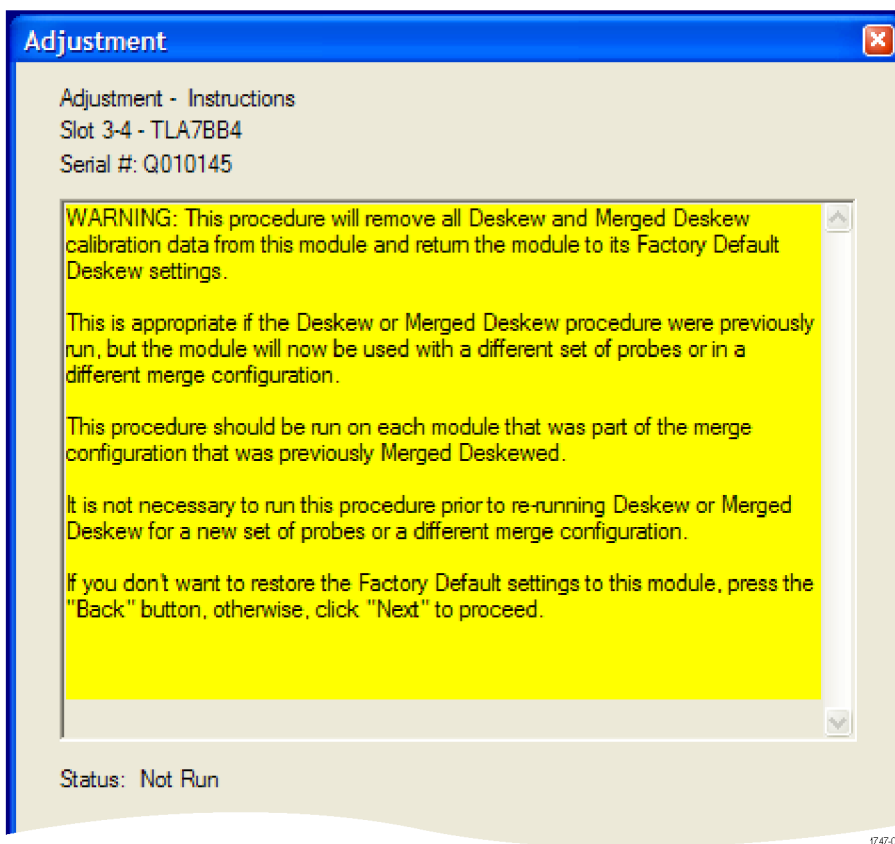

Figure 63: Deskew procedure: Restore Factory Default instructions
2. Click the Next button and note the instructions in the dialog box. (See Figure 63.)